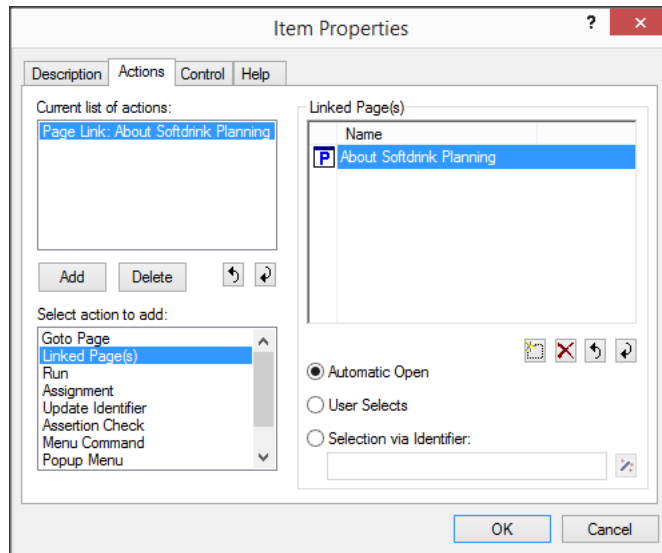

Figure 13.17: The **Action** tab of the menu **Item Properties** dialog box
- ▶ select the *About Softdrink Planning* page (see Figure 13.17), and